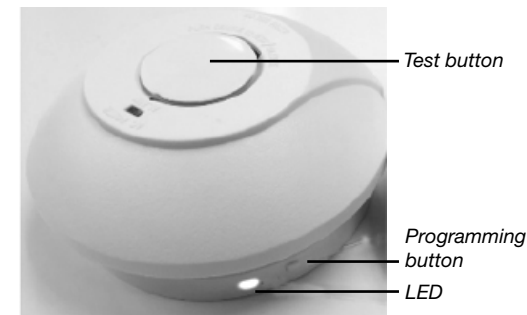

Figure 7
- Before the smoke alarm is fitted on the mounting plate, a function test must be performed (with power supply from 9V battery) by pressing in the test button on the smoke alarm, which should then emit a load pulsating signal. See figure 7.
- Turn on the current and then test that the smoke alarm is functioning by pressing in the test button. See figure 7.
1. Hold down the master device's programming button for about 2 seconds until the LED indication starts to flash red. The master device is now in programming mode and ready to receive the radio code from the other alarms. The master device remains in programming mode for about 30 seconds before returning to normal mode. See figure 7.